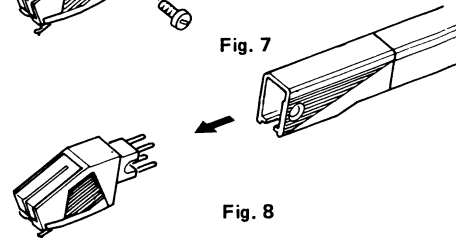

Fig. 8
2. Pull the cartridge forward as shown in Fig. 8.